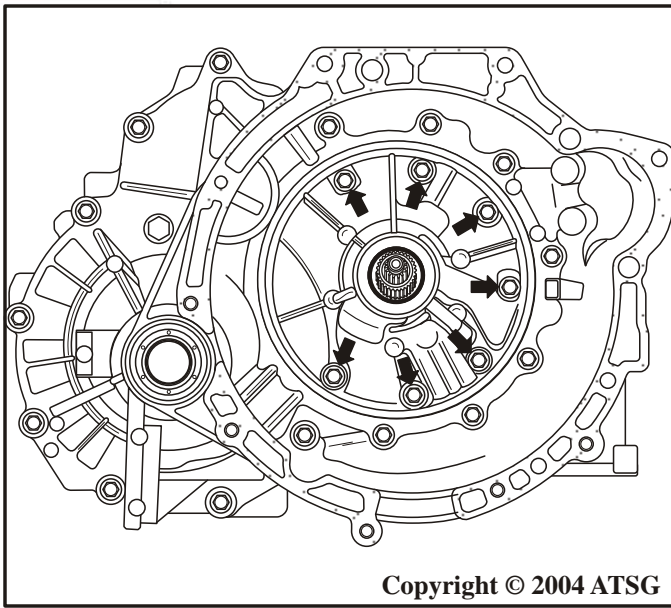

Figure 186
69. Install the seven bolts that secure the oil pump to case in the locations shown in Figure 186.